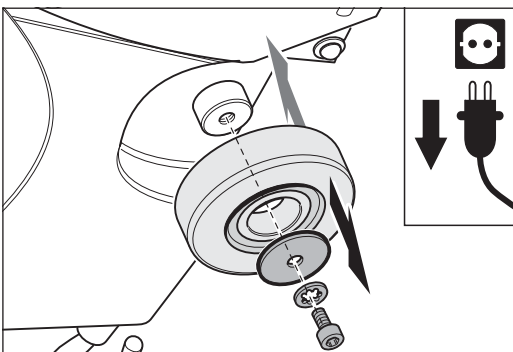
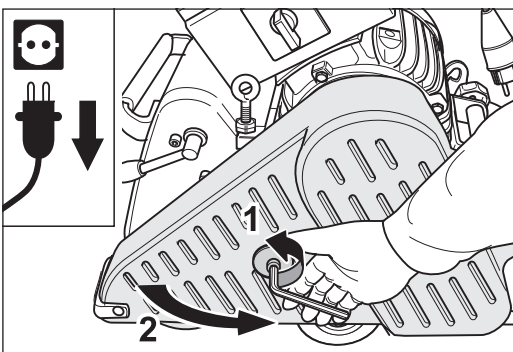

Fig. 100 Remove the screw and washers in the center of the wheel and remove the lateral wheel. Assemble the new wheel in reverse sequence.
Fig. 101 **Pull the power plug out of the socket** and open the belt guard.
- 4 Release the screw in the center of the wheel and remove the screw and washers (fig. 100). Before removing the **left** lateral wheel open the belt guard (fig. 101).
- 3 Open the belt guard (fig. 101).